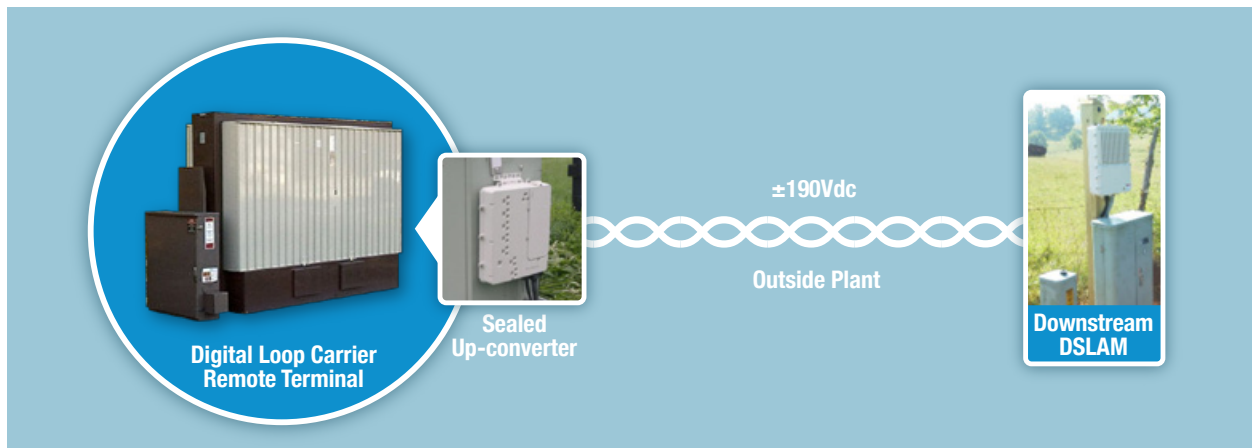

Figure 5. Mid-Span Architecture for Edge of Network
Sometimes a community is built out in such a way that a cluster of living units is located at the far edge of the serving area. In these cases, the DSLAM is usually too far from the CO to be line powered. Moreover, the cluster of homes may be isolated from others making it impractical to use a DSLAM hub. Nevertheless, the DSLAM can still be line-powered, provided there is a powered Remote Terminal (RT) in the general vicinity. If an existing RT, such as a Digital Loop Carrier, is within the serving parameters for Line Power, and if there is a source of DC power available, then a Line Power module can be added to the RT to deliver power to the DSLAM located at the far edge of the network. Small, sealed Up-converter modules are available that can mount inside the RT or attach to the side of the cabinet or a nearby pole or pedestal. All of the qualifying requirements (48Vdc capacity, protection, access to cables, and space) apply, but are usually easily attainable because only a single up-converter module is being deployed. A diagram of this application is provided in Figure 5.